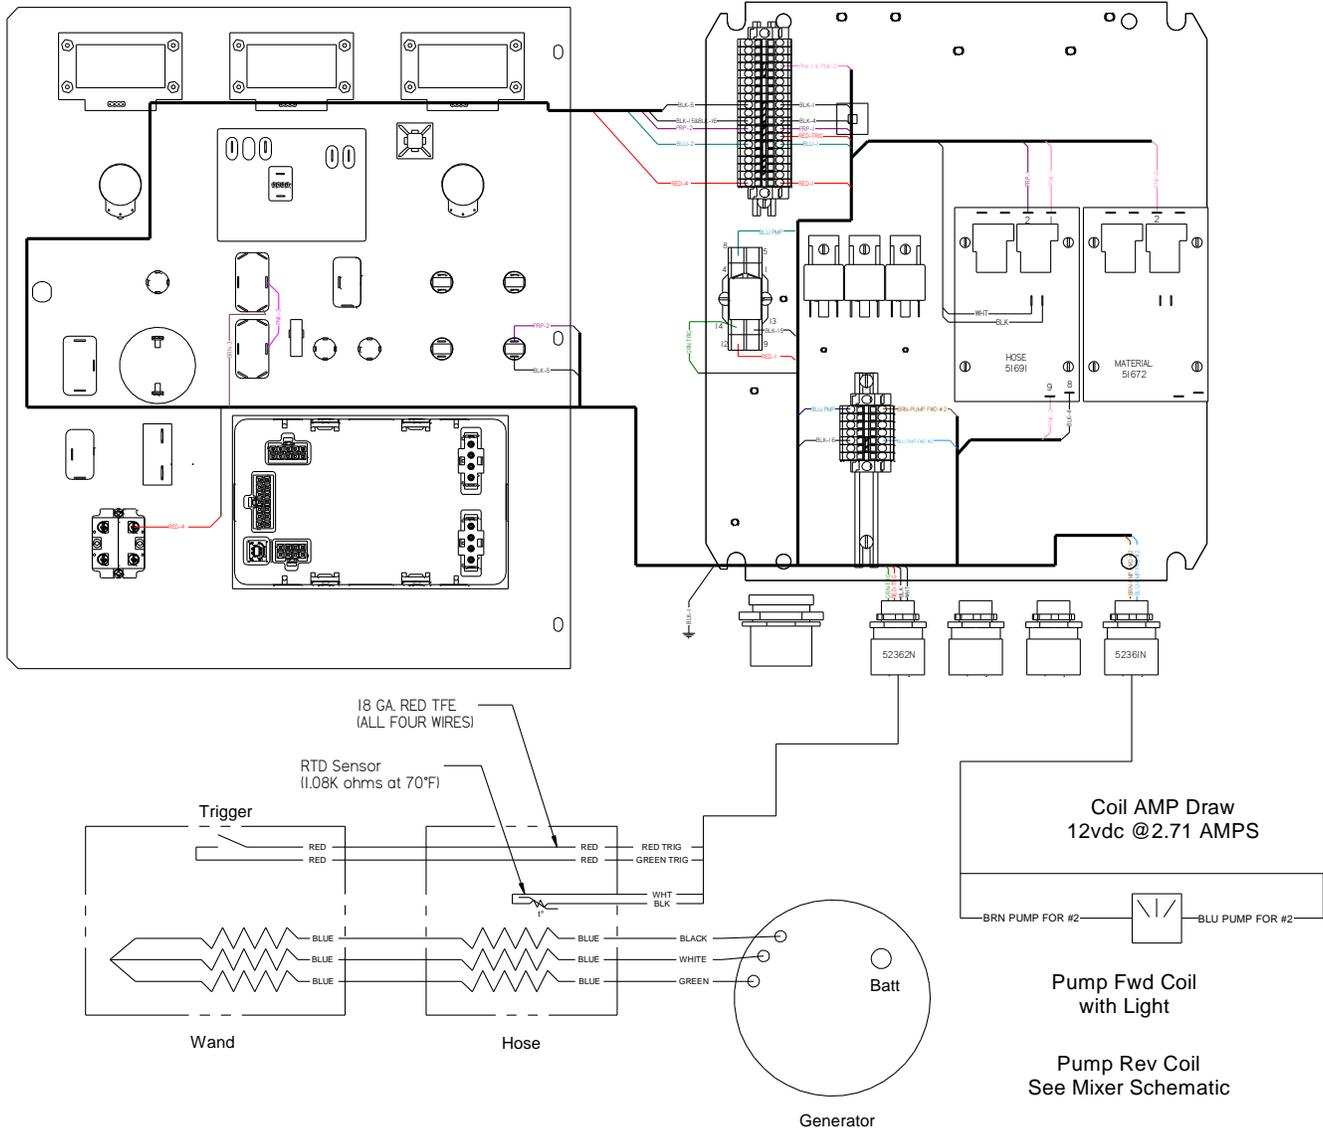

Fig. 8-11 Pump Schematic
- **NOTE:** Use Fig. 8-11 Pump Schematic while troubleshooting the pump electrical system.
| 2 | Is there 12 Vdc between the Hose PAKSTAT terminal #2 purple wire and terminal #8 black ground wire? (Refer to the pump circuit schematic Fig. 8-11 Pump Schematic.) | <ul style="list-style-type: none"> • Yes, go to Step 3. • No, go to Step 2a. |